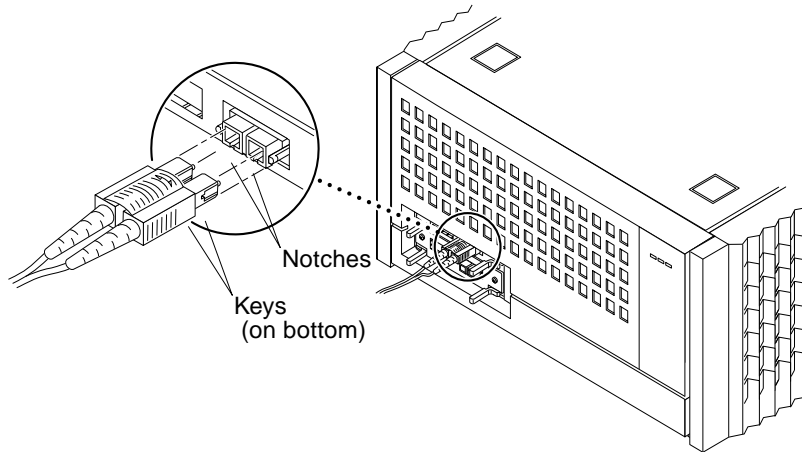

FIGURE 2-2 GBIC on the Rear Panel
5. Connect one end of the fiber optic cable to the GBIC (FIGURE 2-2).
Note – Fiber optic cable connectors are keyed to prevent improper insertion; they can only be installed as shown in FIGURE 2-2.